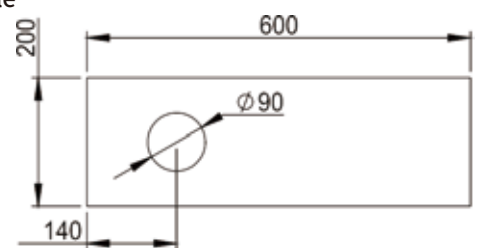

Fig 3-1
- Unscrew the two (2) M10 bolts found on the bottom of the base to separate the hardness tester.
- A hole will need to be drilled into the final location of the hardness tester. This hole will be used to allow the lead screw that controls the vertical position of the test anvil to have enough clearance for full range motions. Refer to Figure 3-1 for hole dimensions and positioning.